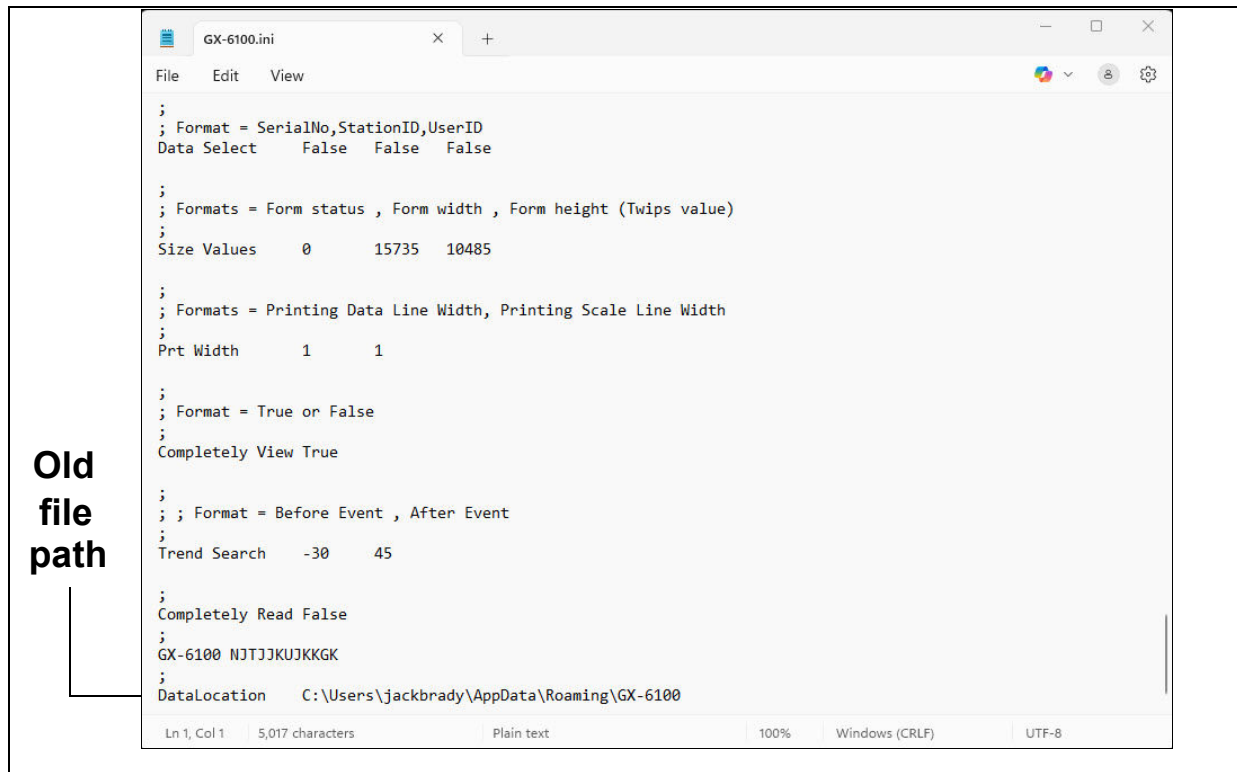

Figure 2: GX-6100.ini File with Original Path
5. Scroll down to the very last line. This line is the Data Location path. An example of the path created by the program is shown in Figure 2.